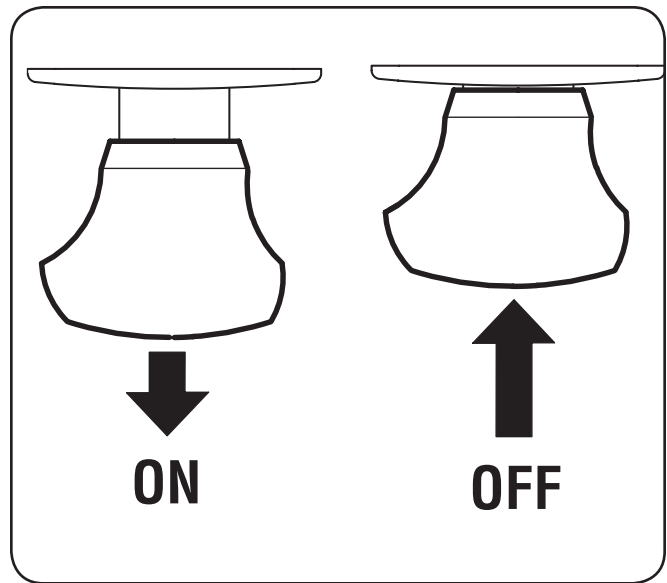

Figure 5-3
2. Push the PTO/Blade Engage lever forward into the engaged (ON) position. See Fig. 5-3.